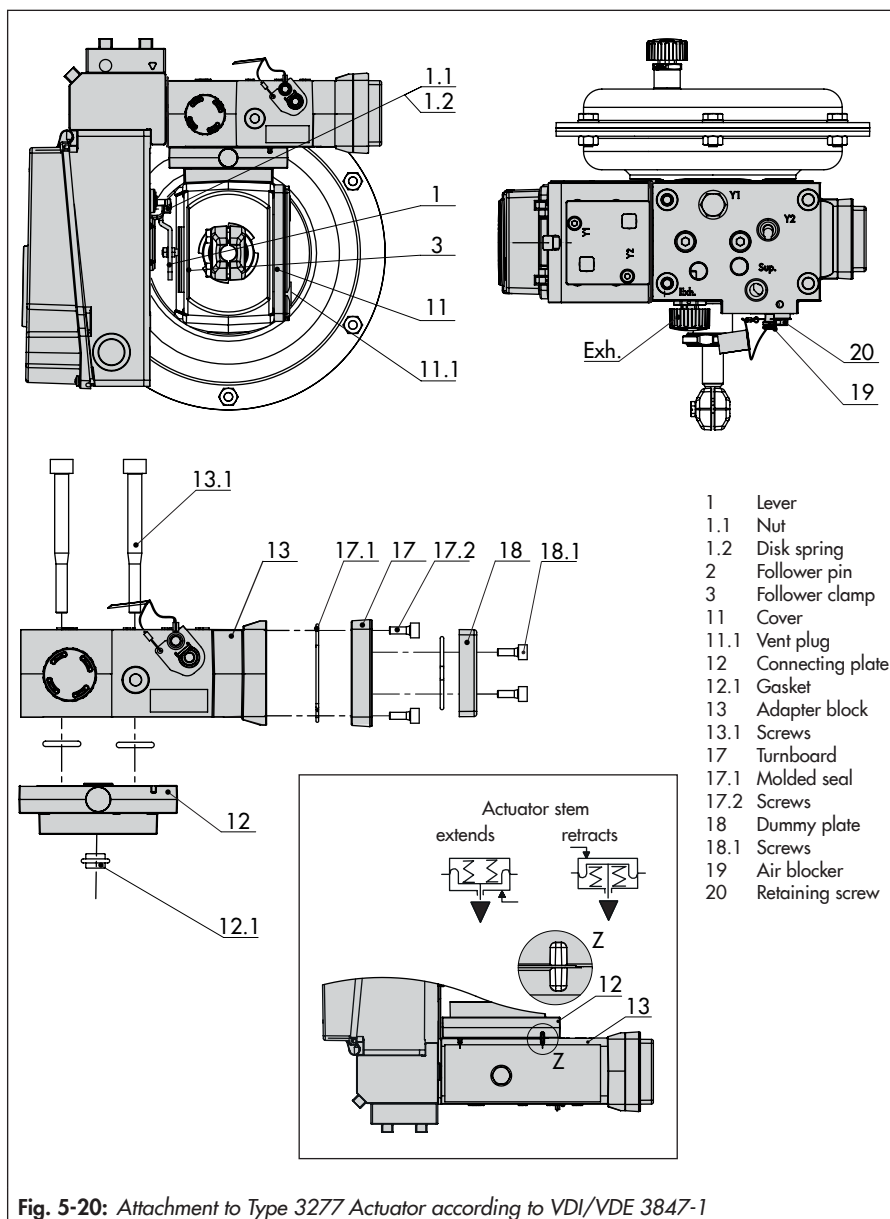

Fig. 5-20: Attachment to Type 3277 Actuator according to VDI/VDE 3847-1
➔ See Fig. 5-20
11. Fasten the positioner to the adapter block (13) using the two fastening screws (6.3). Make sure the molded seal (6.2) is properly seated (see Fig. 5-20).
12. Mount cover (11) on the other side. Make sure that the vent plug is located at the bottom when the control valve is installed to allow any condensed water that collects to drain off.